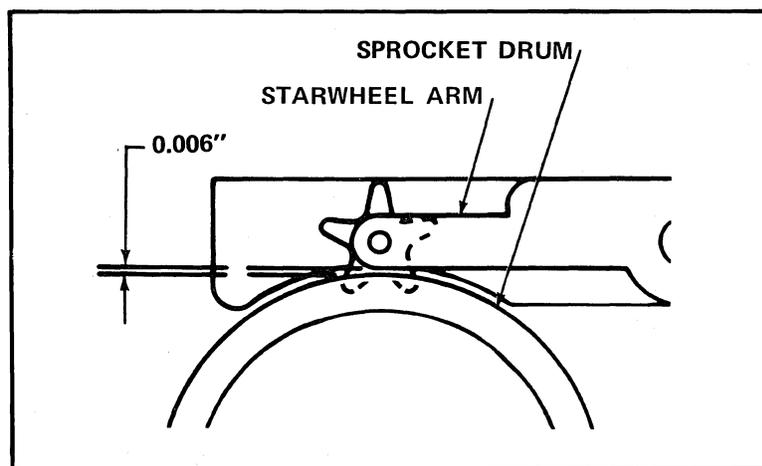

Figure 6-18 Starwheel Arm Clearance
- (1) The starwheel arms are adjusted to provide 0.006 inch clearance between the arm and sprocket drum. With a 0.004 inch tape passing under the arm, no wear of the tape or the arm will occur. This also provides for acceptance of splicing patches, thus eliminating inaccuracies in reading. See Figure 6-18.